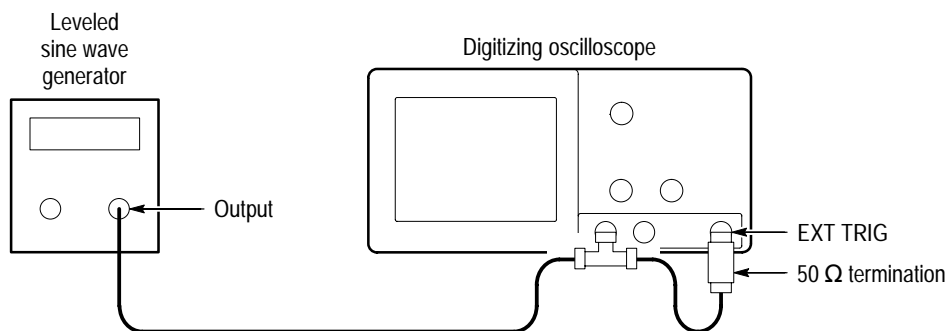

Figure 4–9: Hookup for trigger sensitivity check
7. Connect the BNC T connector to **CH 1**; connect the cable to the **EXT TRIG** input through a 50  $\Omega$  termination as shown in Figure 4–9.